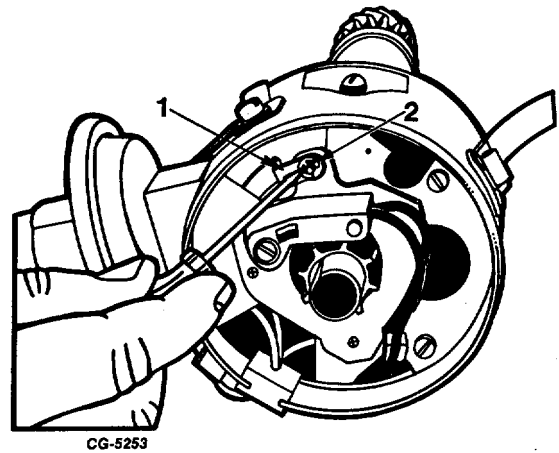

Fig. 12 Removing Diaphragm Rod Retainer
2. Remove vacuum advance diaphragm rod retaining "E" clip (Figure 12) and flat washer (where used).